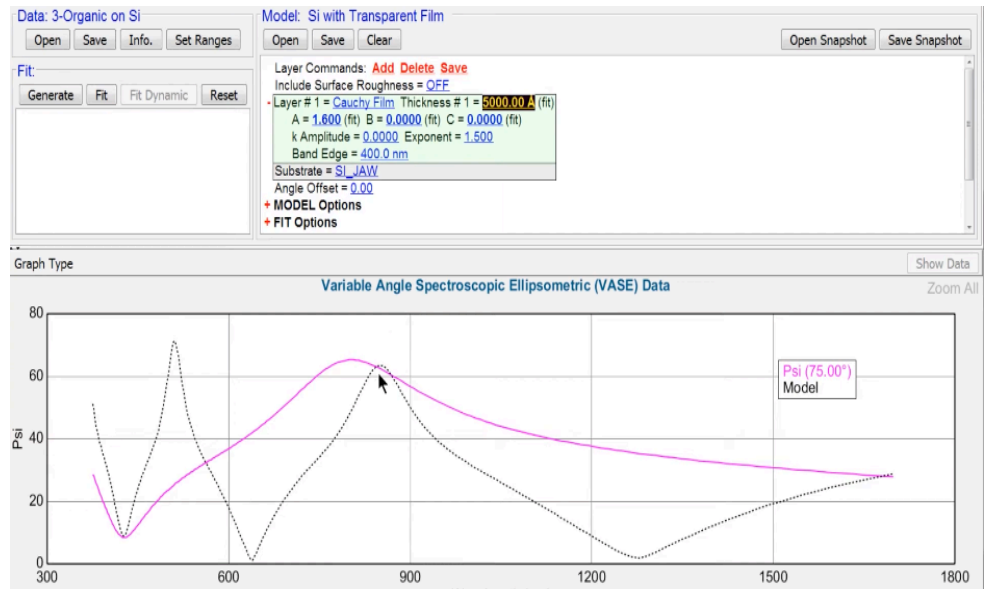
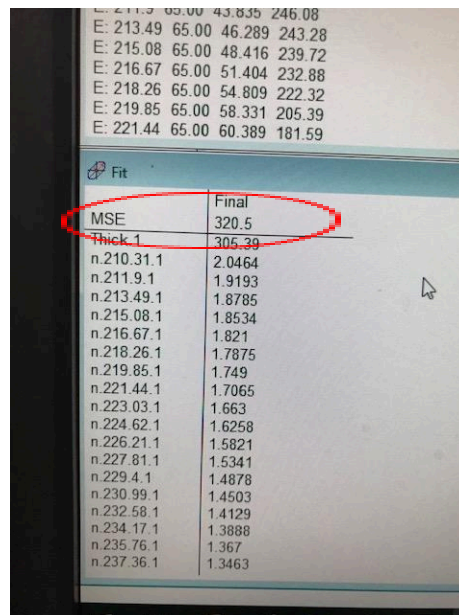

Figure 9: Example of a bad fit. Notice the black fit curve does not match the pink data curve
Figure 10: Example of large MSE
- 8.2.10. See **Figure 9** and **Figure 10** for examples of bad fit.